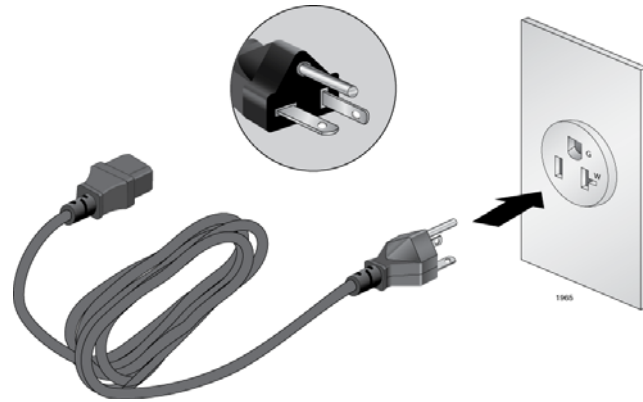

Figure 41. 100 - 125 VAC 125 V NEMA 5-20 Plug and Receptacle
- The power cords provided with the AT-SBxPWRSYS1 and AT-SBxPWRPOE1 Power Supplies for 100-125 VAC installations have 20 Amp, 125 V NEMA 5-20P plugs. The plugs are only compatible with NEMA 5-20R receptacles. See Figure 41 on page 111.